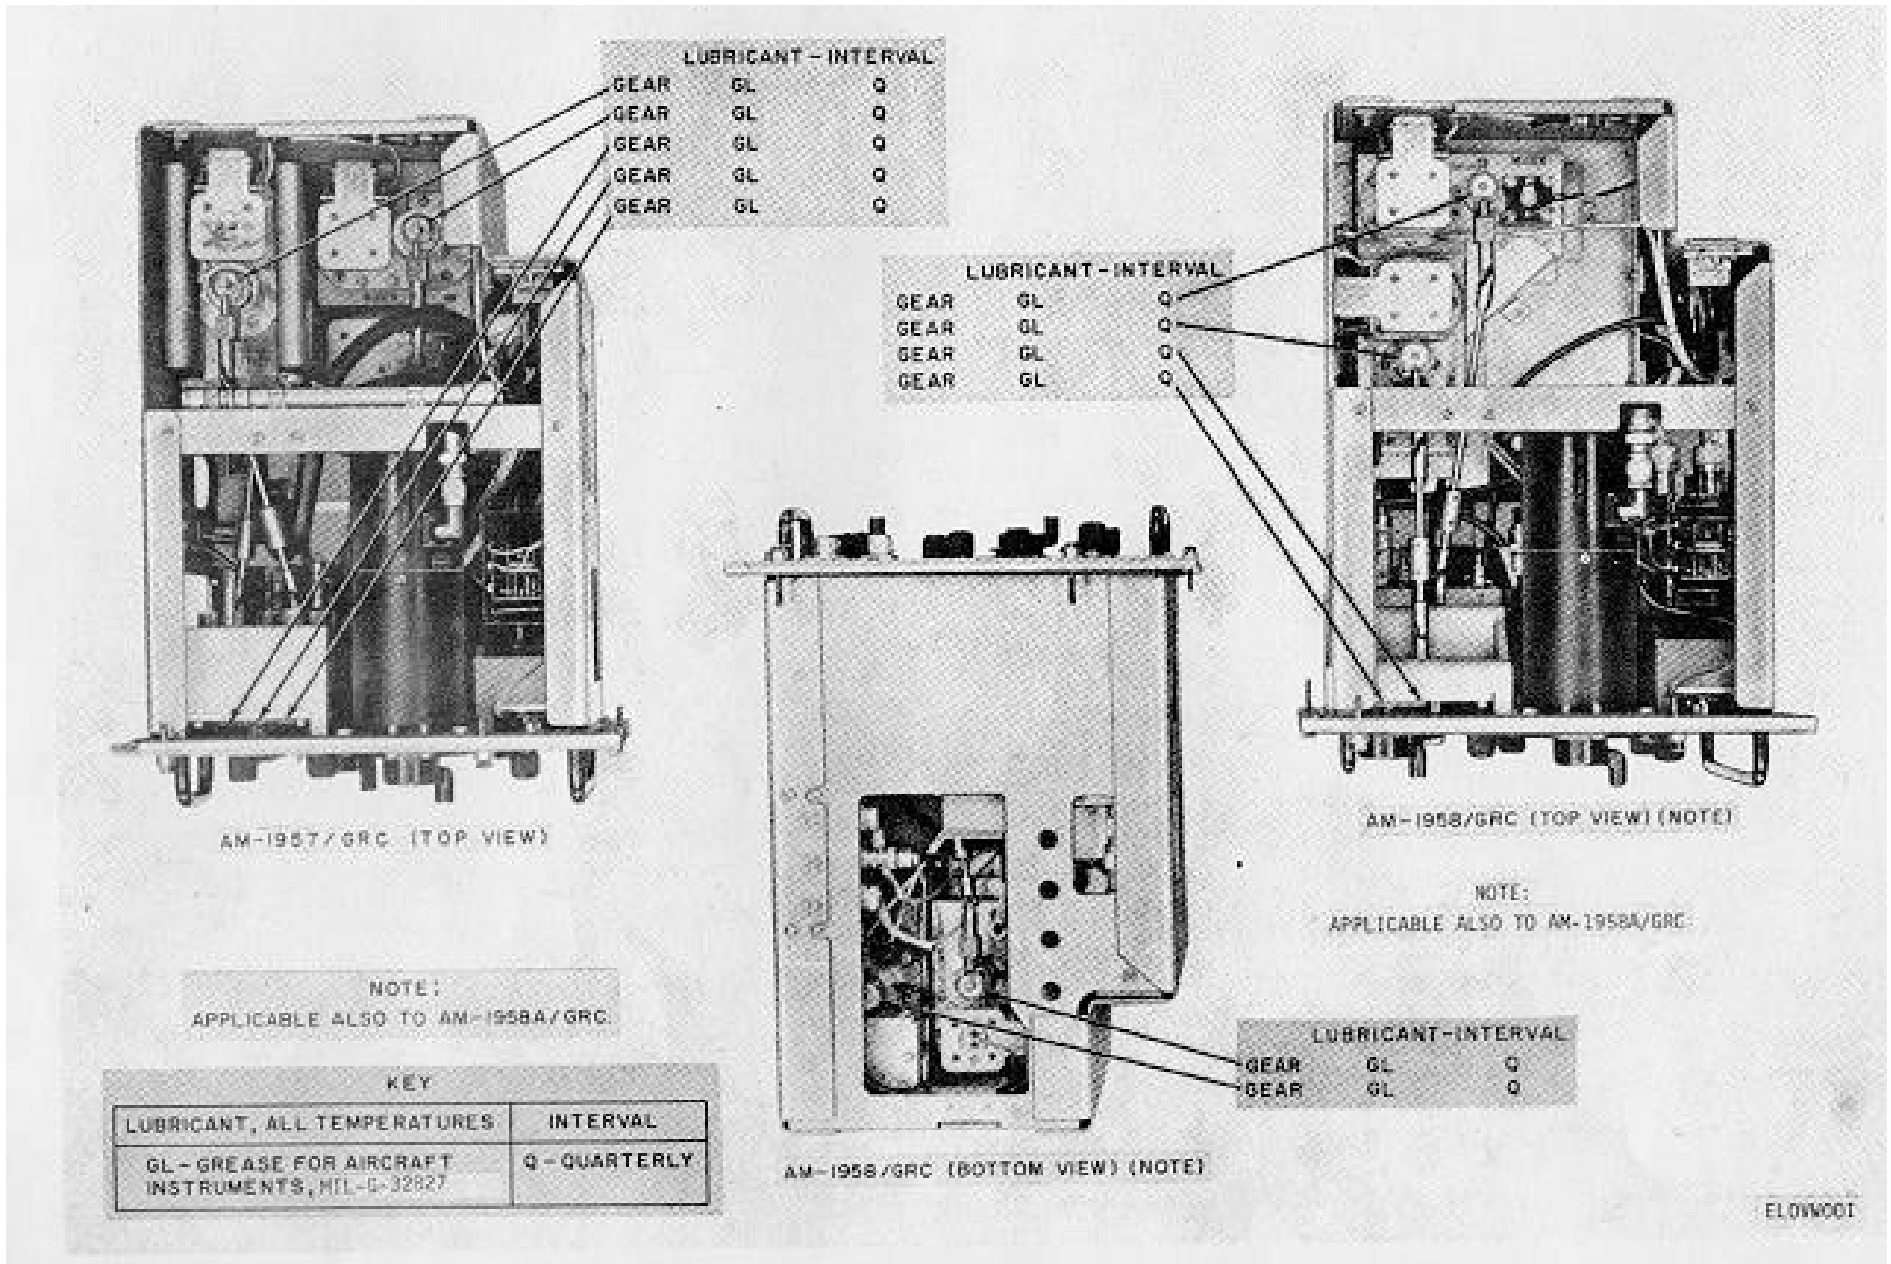

Figure 5-1. Amplifier-Oscillators AM-1957/GRC and AM-1958(\*)/GRC, lubrication points.
a. Amplifier-Oscillator AM-1957/GRC and AM-1958(\*)/GRC. Loosen the front panel mounting screws on the AM-19571GRC or the AM-1958(\*)1GRC and remove it from the T -8 93(P)/GRC. Locate all the points to be lubricated (fig. 5-1) and clean them with a brush dipped in cleaning compound. Use a clean brush to apply a light film of grease ((GL) to the points indicated. Replace the components and tighten the mounting screws.